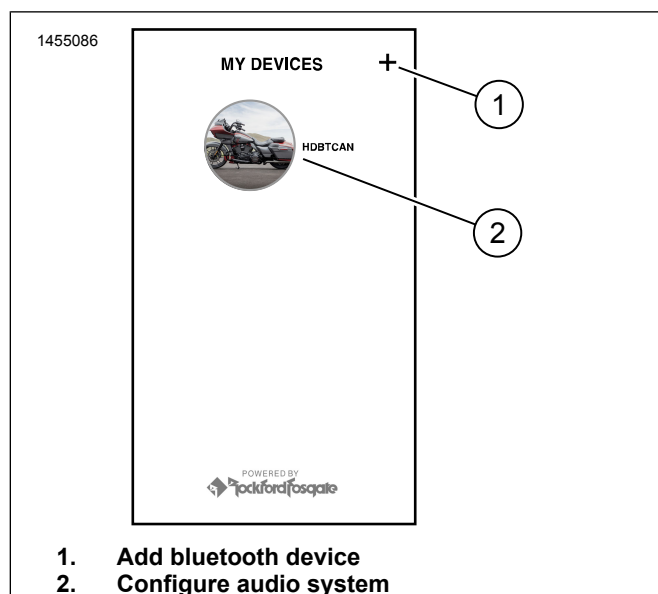

Figure 20. System Access
- b. Access app menus (2) to setup vehicle sound system.
1. See Figure 20. Accessing your audio system.
- a. Pair device (1) to system.